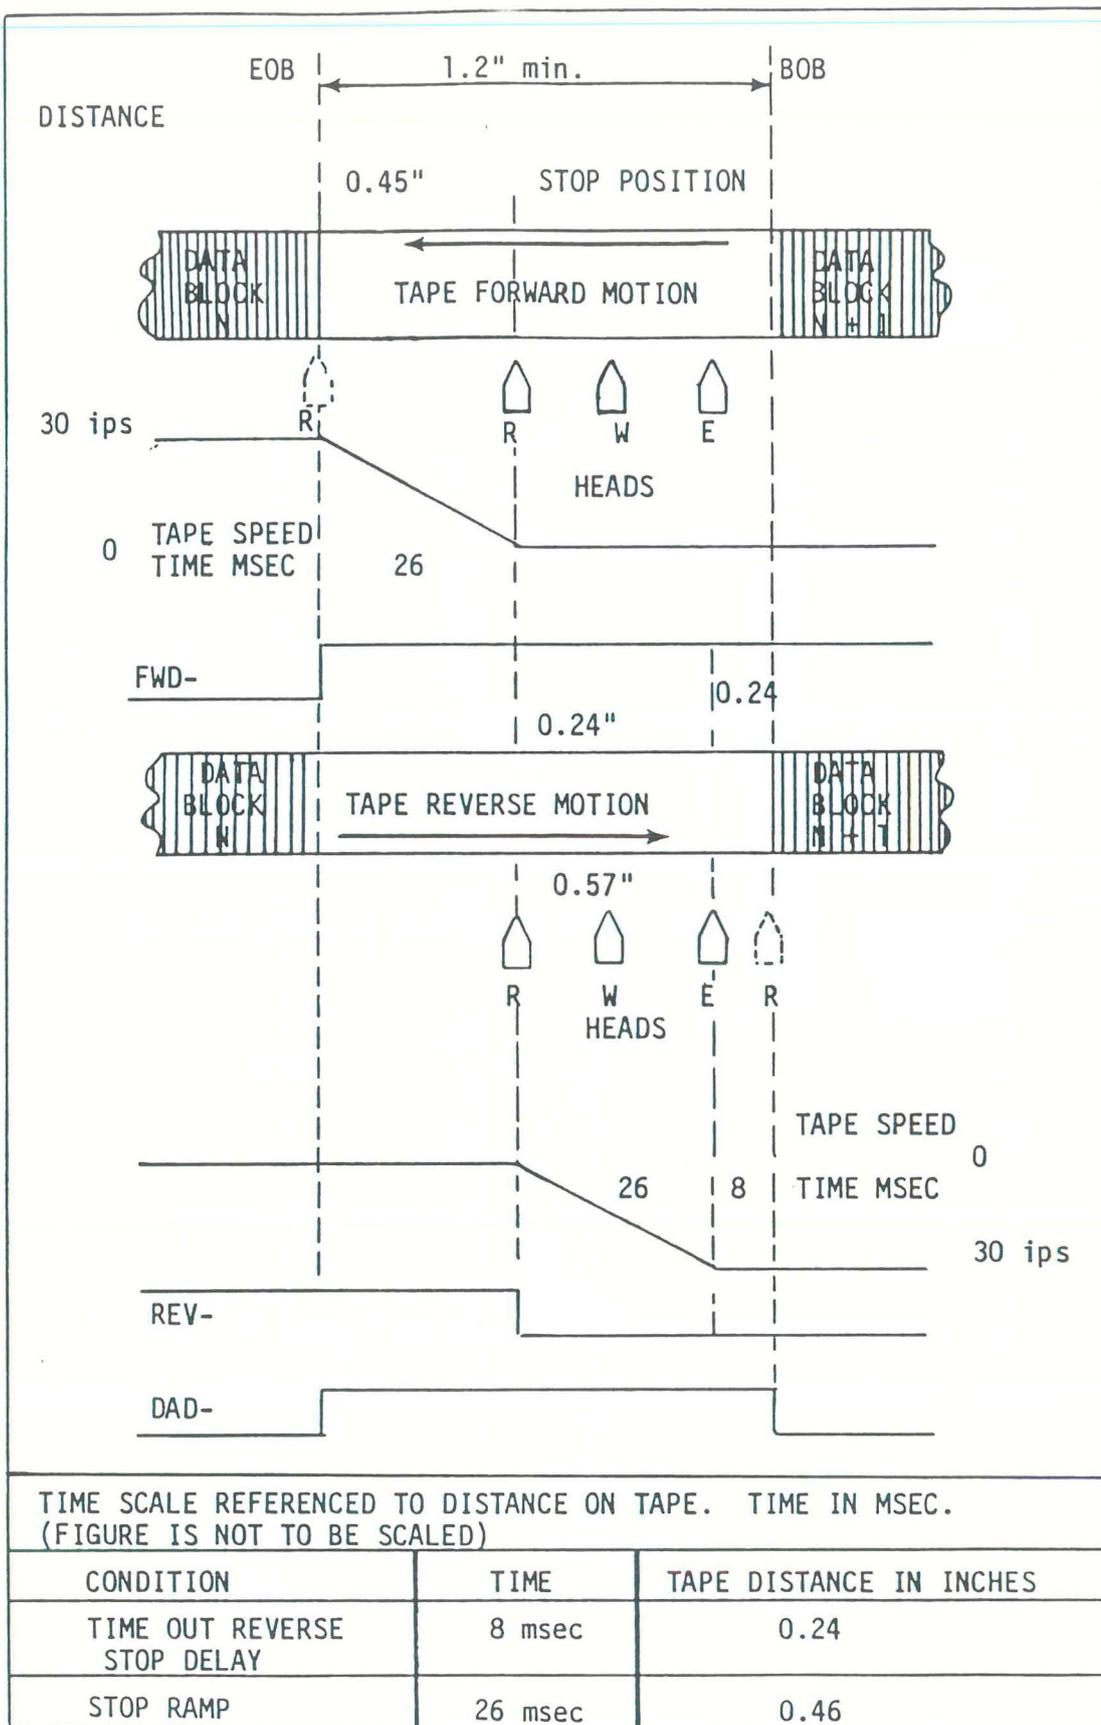

Figure 3-6. Time and Tape Budget for Reverse Start and Stop Modes
3.5.4 Reverse Stop Modes (See Figure 3-6)